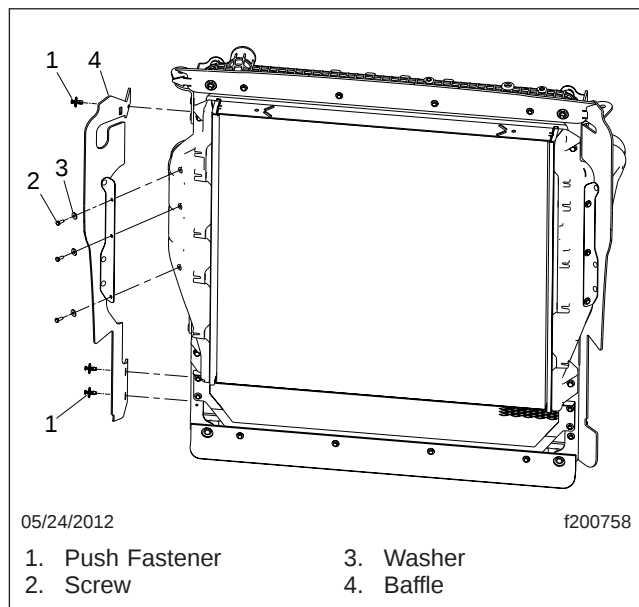

Fig. 3, Radiator Baffle, Right Side
- 13.2 Remove the radiator baffle from the right side of the radiator and discard it. See Fig. 3.